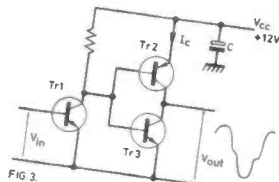

FIG. 3.
- 6) In the design of a transistorised class B amplifier, as shown in Fig. 3, the cause of the distortion shown in the output diagram is: